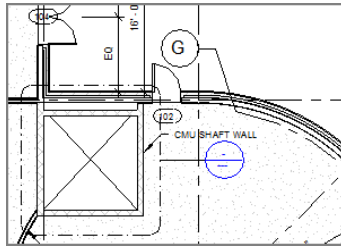

FIGURE 8.20: Adding bubbles to the radial grid line and adjusting their placements with elbows
6. The grid bubble lands in a congested area. Fix this by adding an elbow and adjusting the bubbles, as shown by grid G near the top of Figure 8.20.